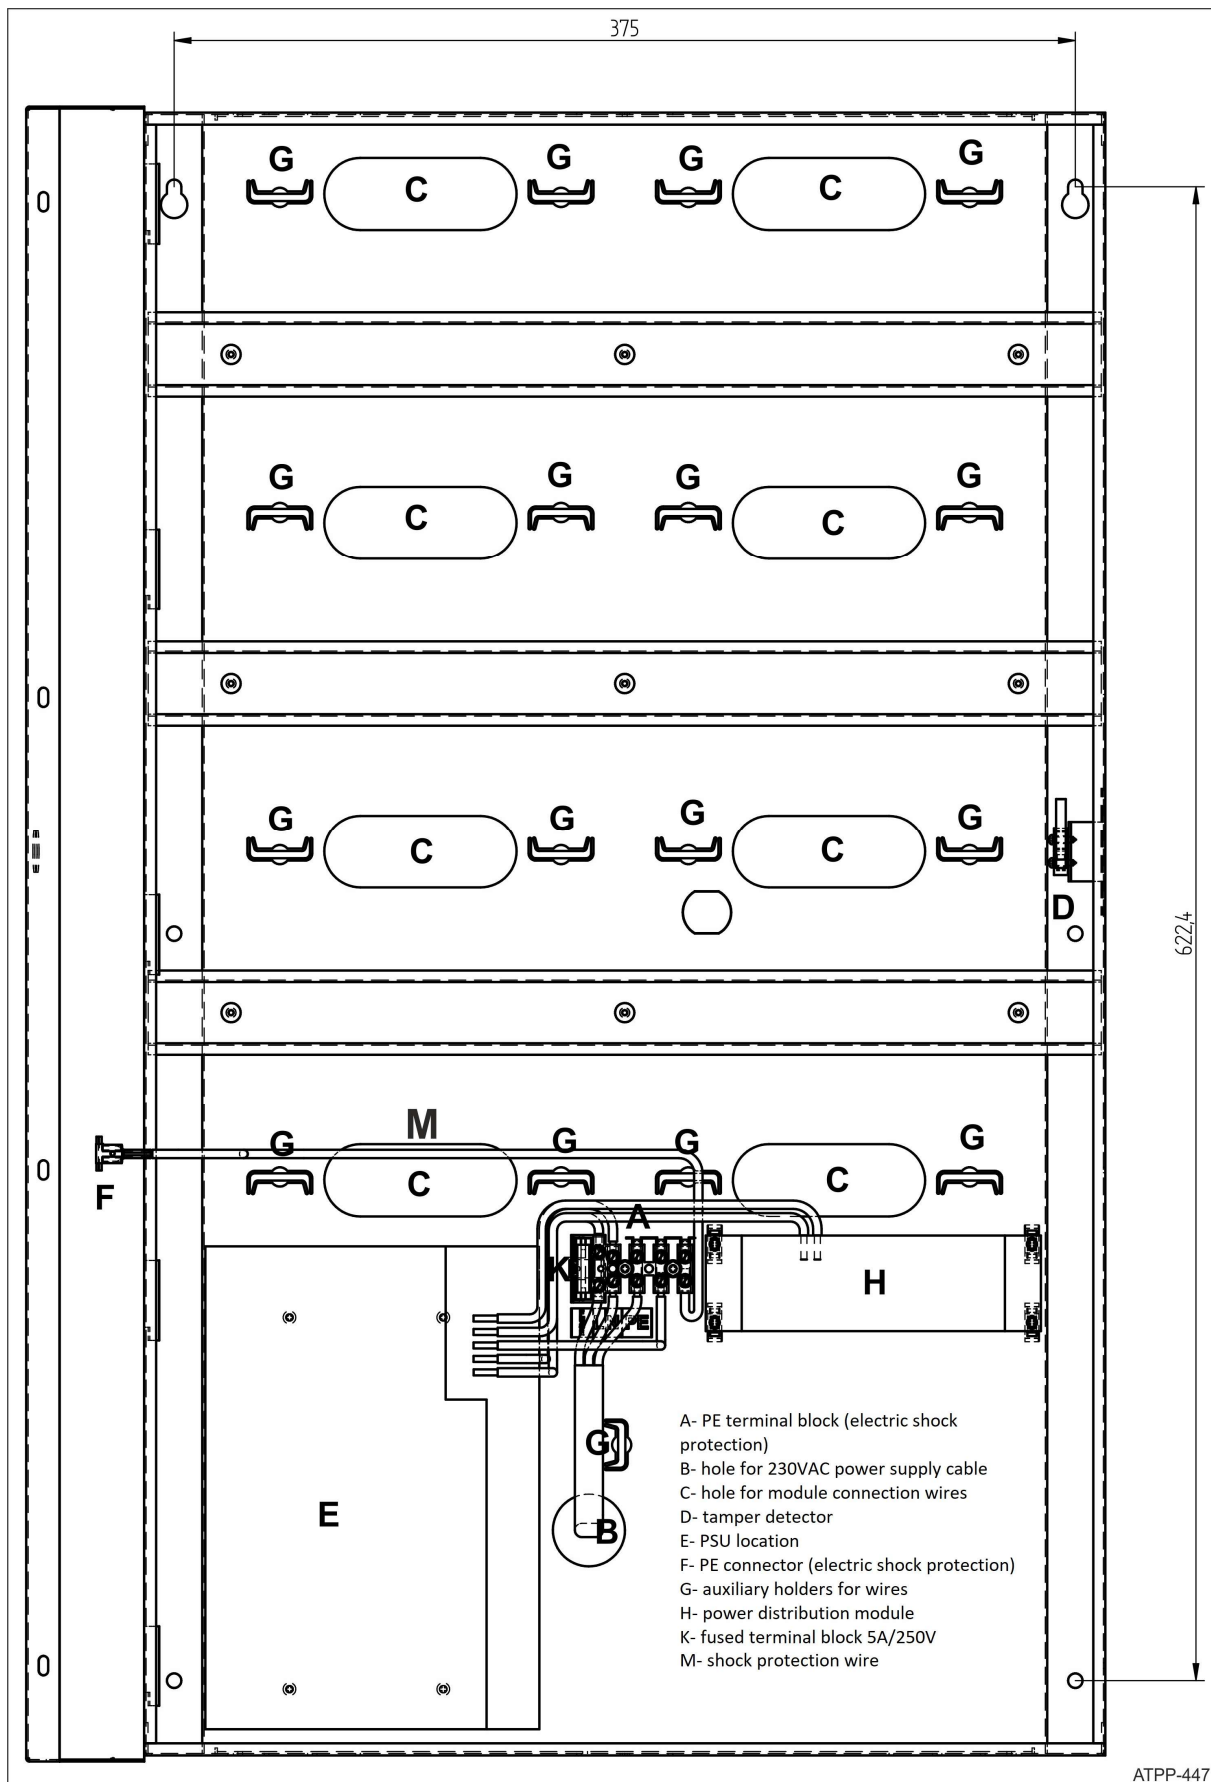

Fig. 2 Internal view of ME-44-S enclosure
6. Protective wire M connected to the terminal block A, should be connected to the F connector of the anti-shock protection PE located on the enclosure door (Fig. 2).